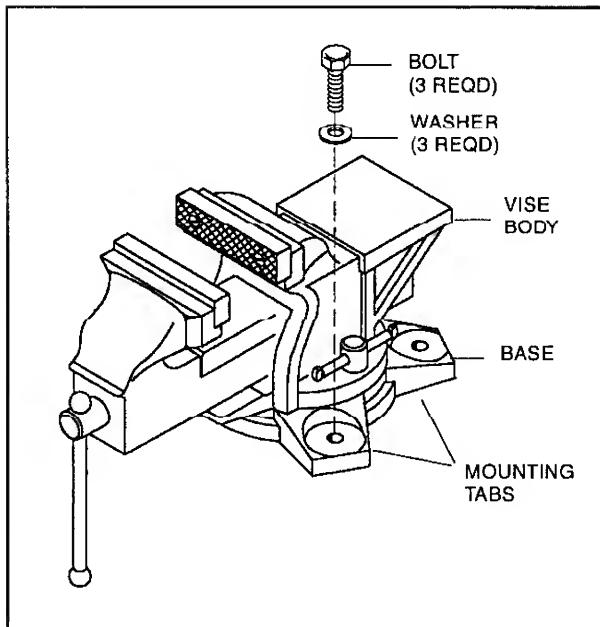

Figure 1. Mounting Vise to a Workbench
The Heavy Duty Vise has three mounting holes on the base (see Figure 1) for mounting to a work bench. Heavy duty hardware must be used to secure the vise to the workbench. Make sure that the vise mounting bolts are tight and that the vise is secure before use.
- Step 5: Insert bolts into the mounting tabs and through the workbench as shown in Figure 1.
- Step 6. Mount the vise to the workbench as shown in Figure 1.